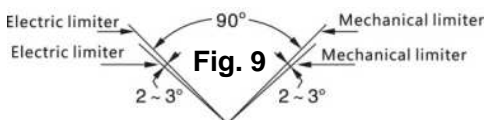

Fig. 9
- ✧ The electric limiter position and mechanical limiter position of the actuator must meet the requirement of (Fig. 9). If mechanical limiter is ahead of or coincides with electric limiter, actuator electromotor may be blocked. It can heat up and even burn the electromotor.